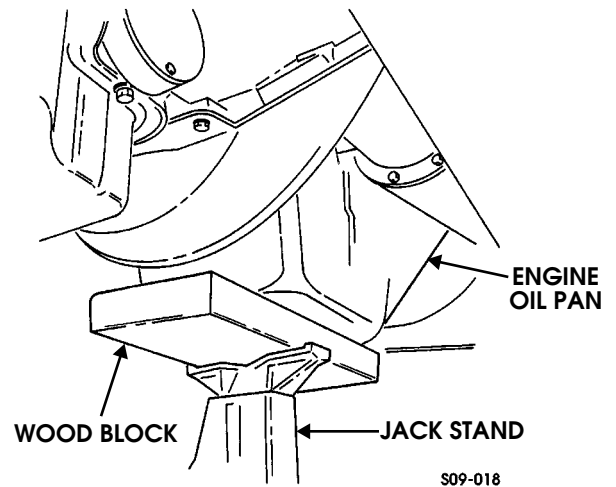

Figure 9-138: Supporting Engine
3. Support engine under engine oil pan with wood block and jack stand (Figure 9-138).
2. Remove wood block and jack stand from under engine oil pan (Figure 9-138).